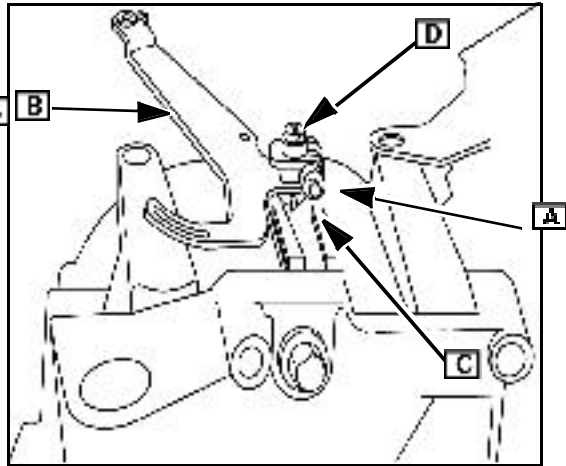

Fig. 22
4. Loosen governor lever nut (A) and remove governor lever (B), Fig. 22.